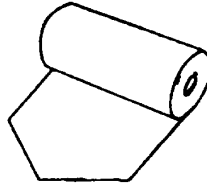

Figure 5. Cutting the Paper Roll.
2. Cut the end of the paper into the following shape as shown in Figure 5.